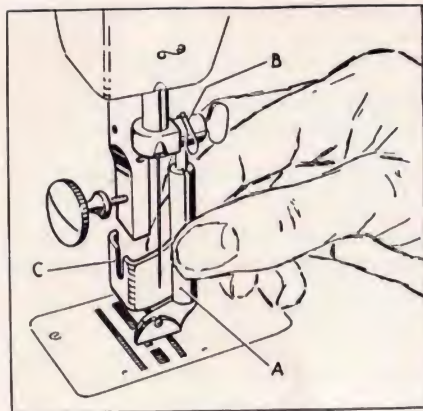

Fig. 32.
Move the needle bar up to its highest position and screw out the presser foot screw about  $\frac{1}{4}$  in. Then, holding the darning foot by its tubular part (A, Fig. 32), hook the spring (B) over the needle clamp. Press the holder (C) hard against the presser bar, push it up under the screw, and tighten the screw.